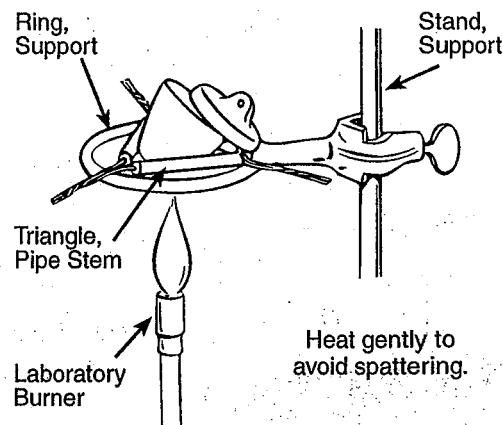

Figure 2.
6. Place the crucible with its lid on the clay triangle as shown in Figure 2. Light the Bunsen burner again and slowly heat the crucible by brushing the bottom of the crucible with the Bunsen burner flame for 2–3 minutes.